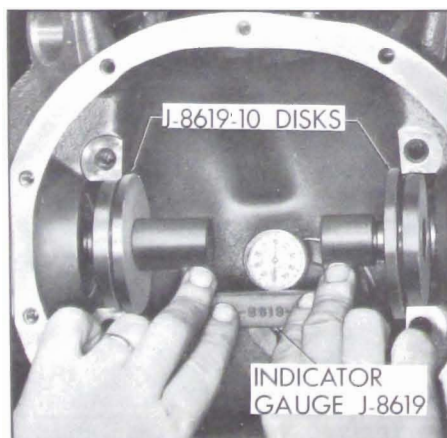

Fig. 6-22—Checking Pinion Depth
8. Make certain differential bearing support bores are free of burrs. Install indicator gauge in carrier so that small diameter outer portion of disks rest in differential bearing pedestal support bores. Spring-loaded center of gauge must be located in centering hole of gauge plate, and ball-tipped contact button of dial indicator must be positioned to bear against outer edge of gauge plate top surface. See Figure 6-22.